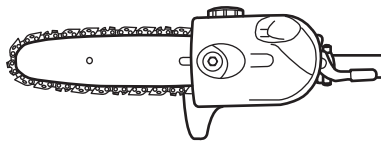

Fig. 9a
a). Set the product on any suitable surface with the chain oil tank cap (D1) facing upwards. (See Fig. 9a)